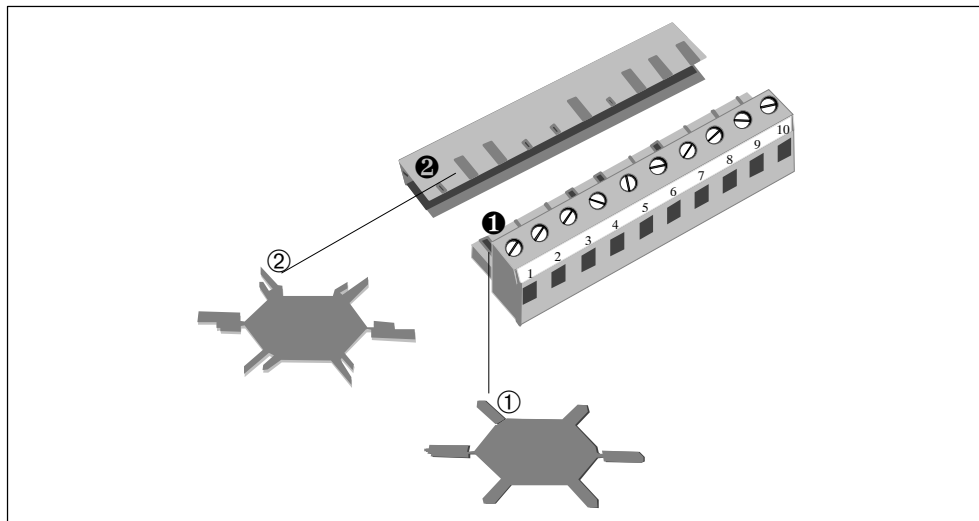

Figure 3-18 Preventing Incorrect Usage of Connectors
The coding profiles ① and coding tabs ② (see Figure 3-18) enable you to code connectors without loss of pole to prevent incorrect usage. Use the following procedure:
1. Insert coding profile ① on connector part ① into the slots provided.
2. Insert coding carrier ② on the main housing ② into the corresponding recesses.